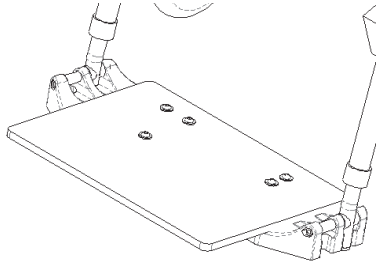

Figure 14.17: Fixed one piece footplate
1. Loosen the angle adjustable footplate adjustment bolts as shown in Figure 14.17.
1. Remove the angle adjustable footplate adjustment bolts as shown in Figure 14.17.
1. Loosen the angle adjustable footplate adjustment bolts (See Figure 14.17).
1. Remove the angle adjustable footplate adjustment bolts shown (See Figure 14.17).